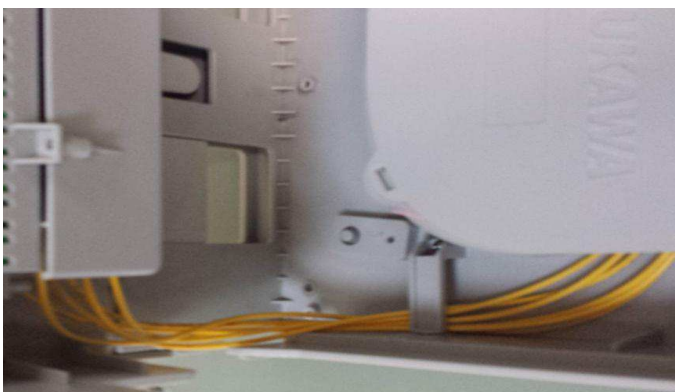

Figure 25
1.6.3 Screw the parking support for splitters and route the fiber to the tray (Fig.25);